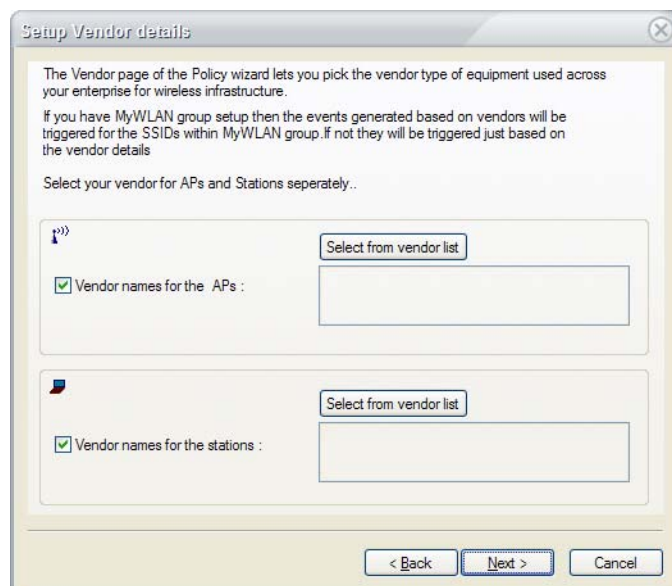

Figure 12-16: Configuring WLAN card vendor lists
- 5) Click **Next**. The Setup Vendor List appears. See Figure 12-16.